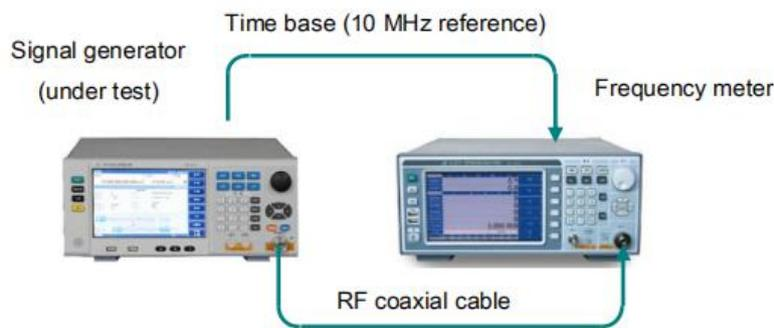

Figure 7.1 Frequency span test
1. Connect equipment as shown in Figure 7.1.